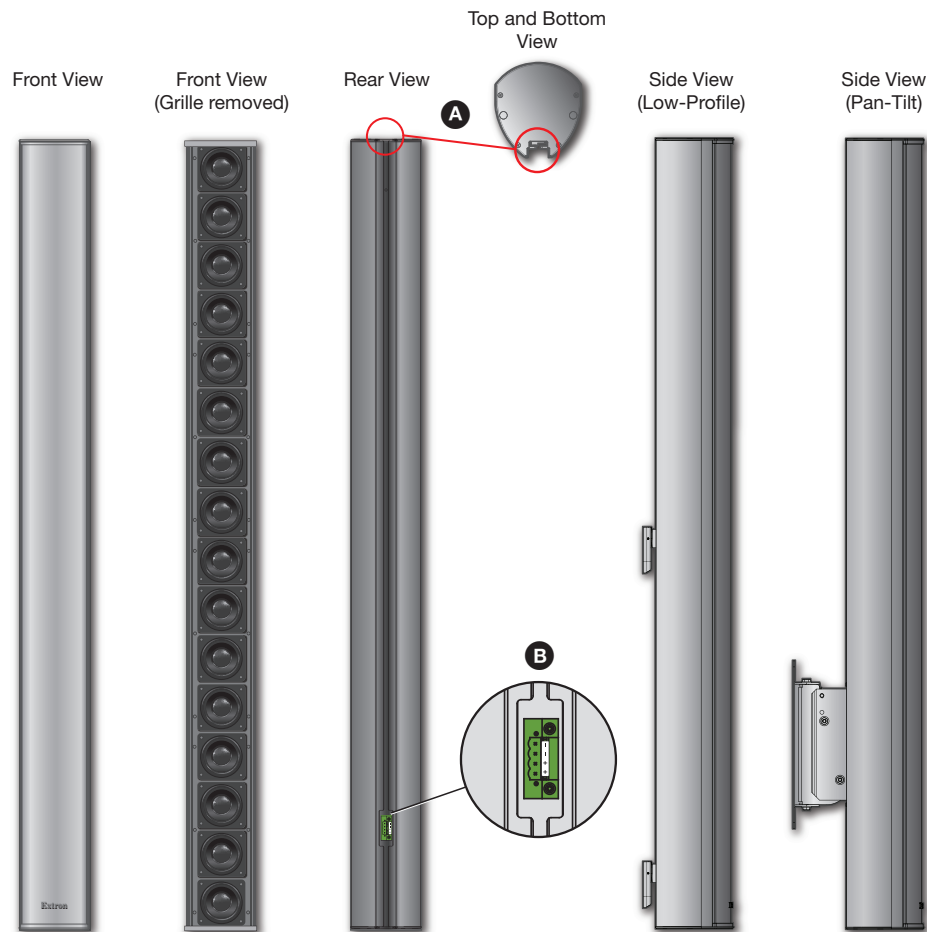

Figure 1. CA 163 Product Diagram
- A Mounting Bracket T-slot (see figure 1)** — Runs the entire length of the speaker enclosure. Carriage Bolts (for the SMK LP CA) or Anchor Plates (SMK PT CA) can slide in through either end to the desired locations. Secure and re-adjust if needed.